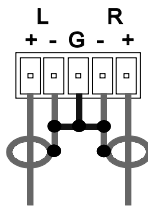

Figure 3: Connecting the Unbalanced Stereo Audio Input
- An unbalanced stereo audio input connection, see Figure 3